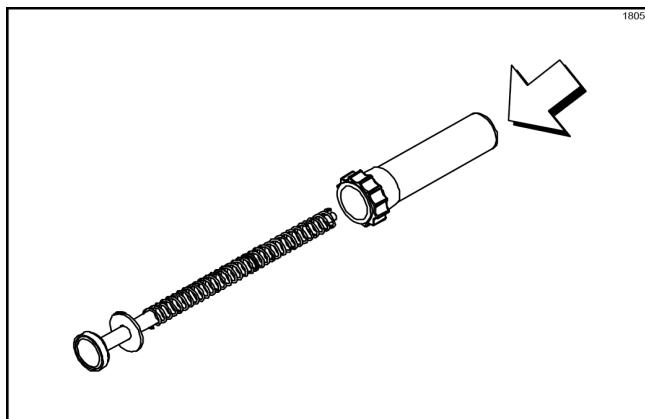

Figure-91
6. Install the flared end of the plunger tube (assembled with insert and nut) onto the plunger assembly. (See Figure-91)